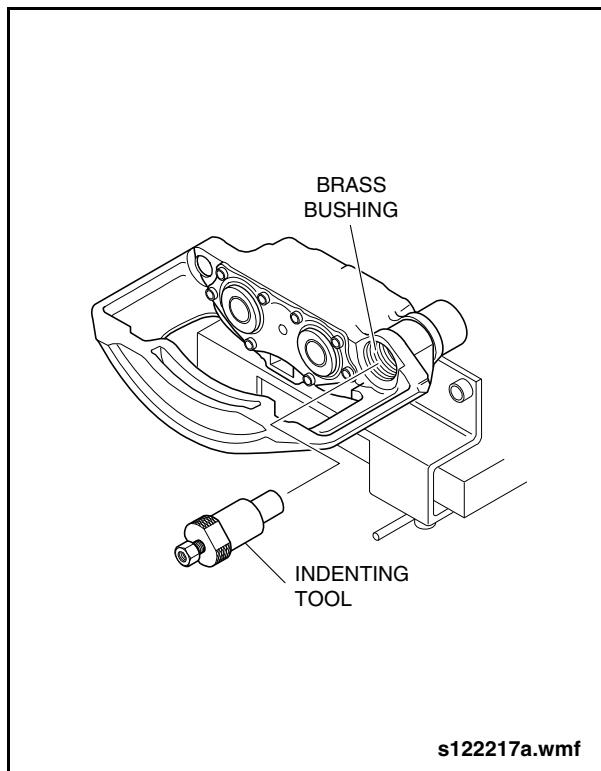

Fig. 1-64: Indenting Tool Installation
- c. Insert the indenting tool (Item 74 from special tools list) into brass bushing from the outside until the stop is contacted. See "Fig. 1-64: Indenting Tool Installation" on page 65.